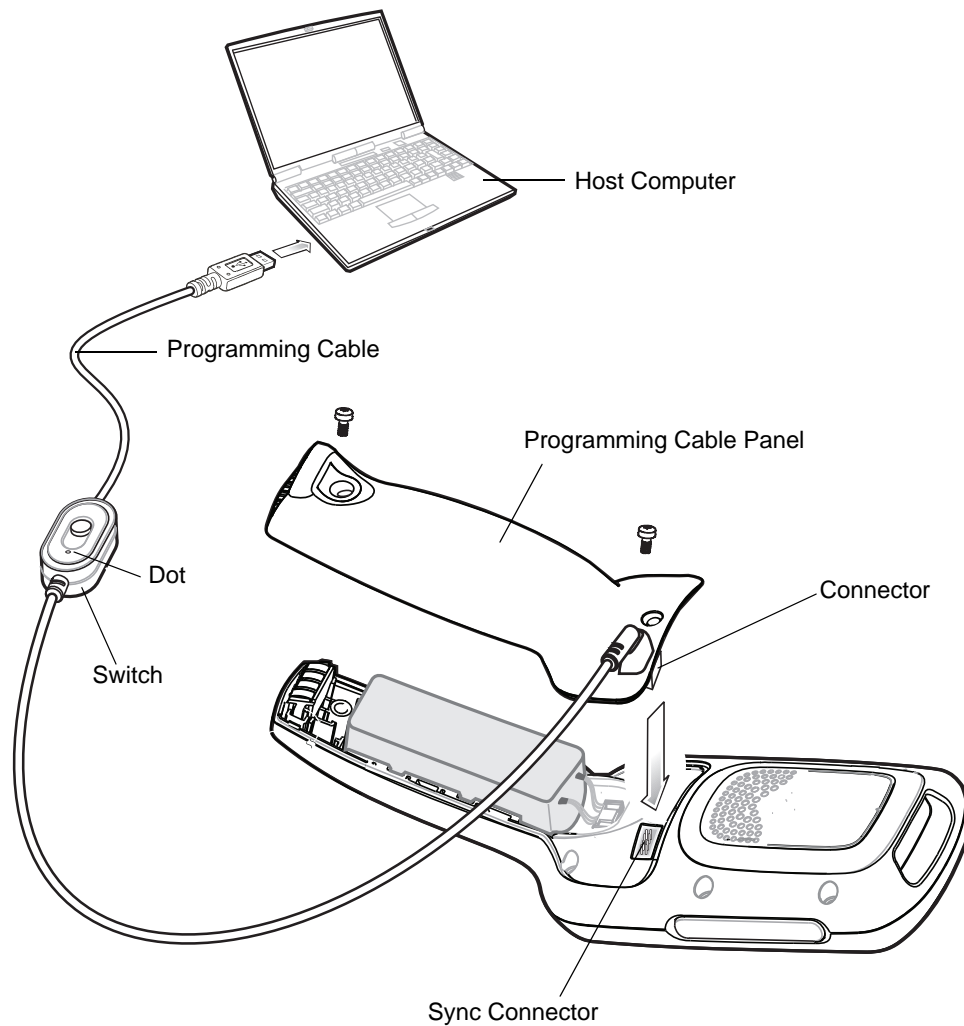

Figure 4-2 *Installing the Programming Cable*
5. Slide the programming cable switch to the side marked with a dot (see Figure 4-2).